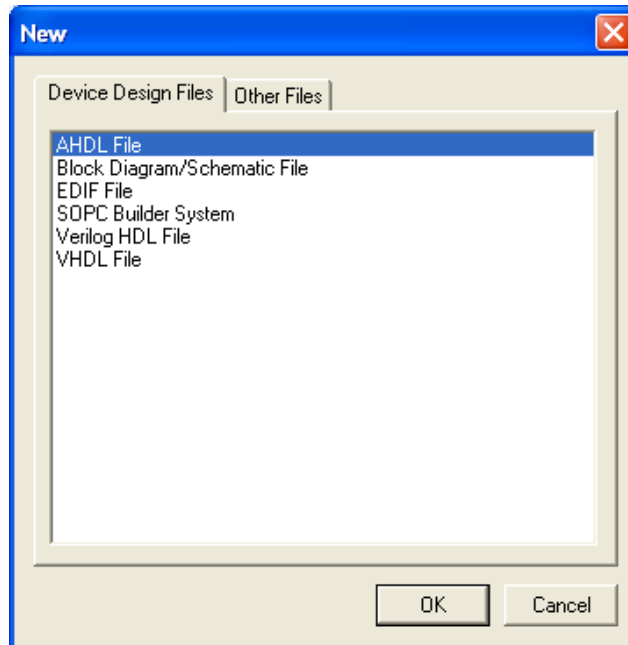

Figure 4. Need to prepare a new file.
1. Open the Waveform Editor window by selecting **File > New**, which gives the window shown in Figure 4.